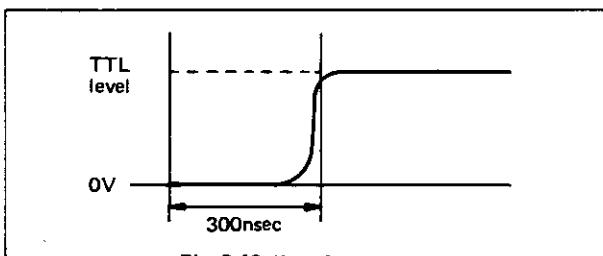

Fig. 6-18 Waveform at TP2
- (6) Check that the comparator output is present at TP2. See Fig. 6-18.